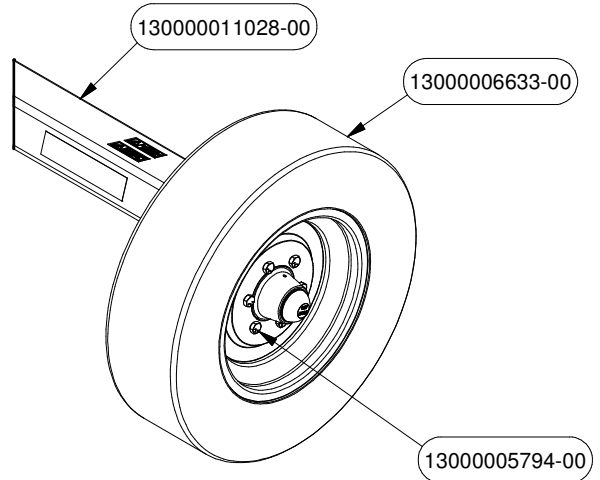

FIGURE 43
- Attach the Tires PN# 6633 to the Axle using the Wheel Bolts as shown in Figure 43.